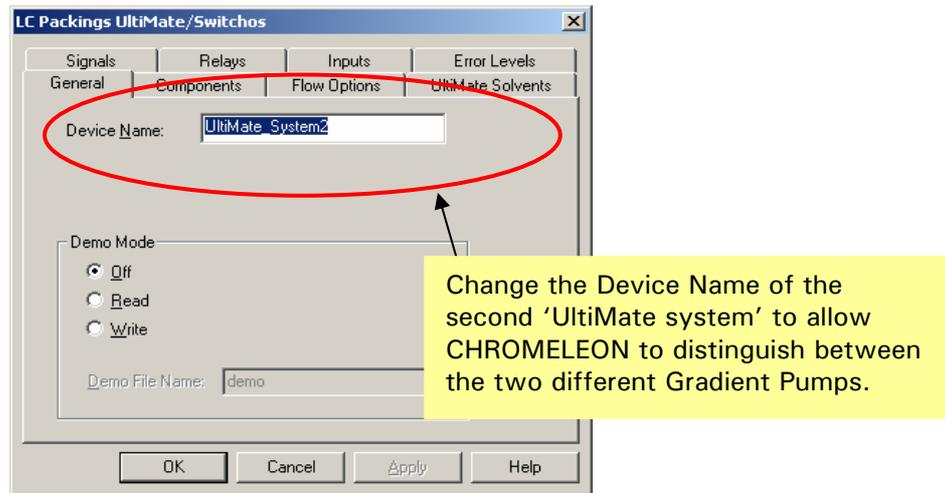

FIGURE B-11 Configuration of the 'LC Packings UltiMate/Switchos#2' Device
- g) Rename the **Device Name** to 'UltiMate_System2' (FIGURE B-11).